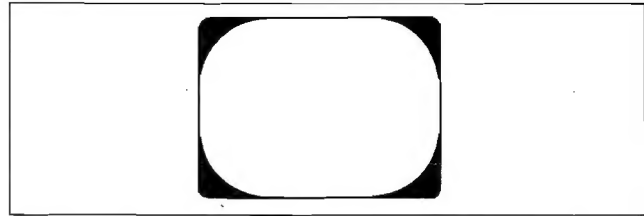

Fig. 8-3. Centering adjustment
1. Adjust L3 [H. SIZE], R15 [V. SIZE], and R12 [V. LINEARITY] on the DR-1 Board for enlarging the deflection size so that the four corners of the monitor screen shows the black shade of the target ring as shown in Fig. 8-3.
2. Adjust R44 (H-CENTERING) and R24 (V-CENTERING) on the DR-1 Board so that the black shades are displayed equally in the four corners of the picture, as shown in Fig. 8-3.